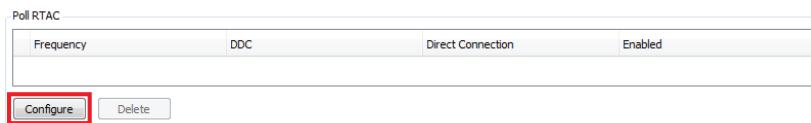

Figure 120 Configure TEAM Poll RTAC
Step 13. Under **Poll RTAC**, select **Configure**, as shown in *Figure 120*, to open the **RTAC Polling Job Wizard**.